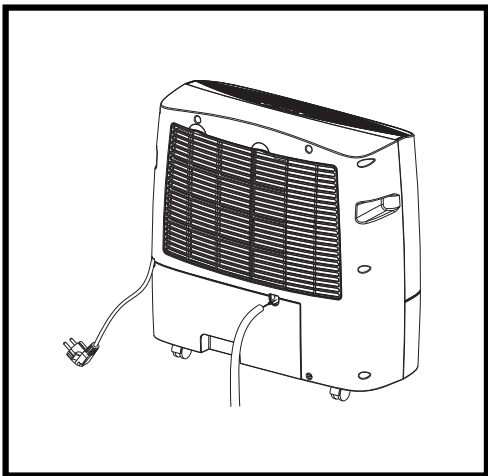

Fig. 6
▶ Continuous drainage (Fig. 6.)